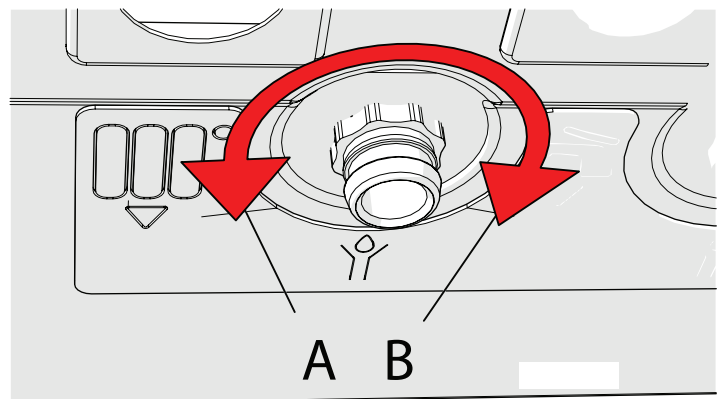

Figure 8-19 – Opening and closing direction of cocks
- 6.- Open drain cocks "A" and "B" (see direction of rotation in figure 8-19);